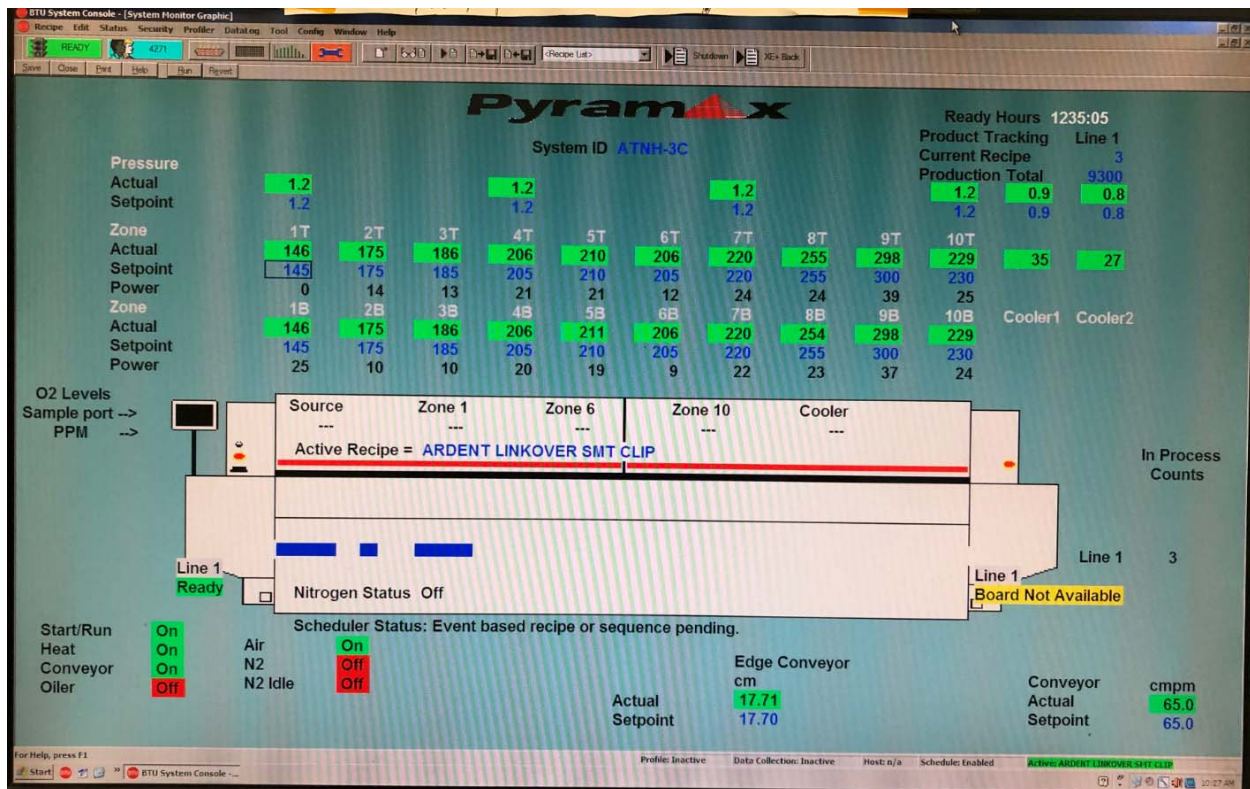

FIGURE 6: REFLOW PROFILE
- See **Figure 6** for an example of a lead-free solder reflow profile.